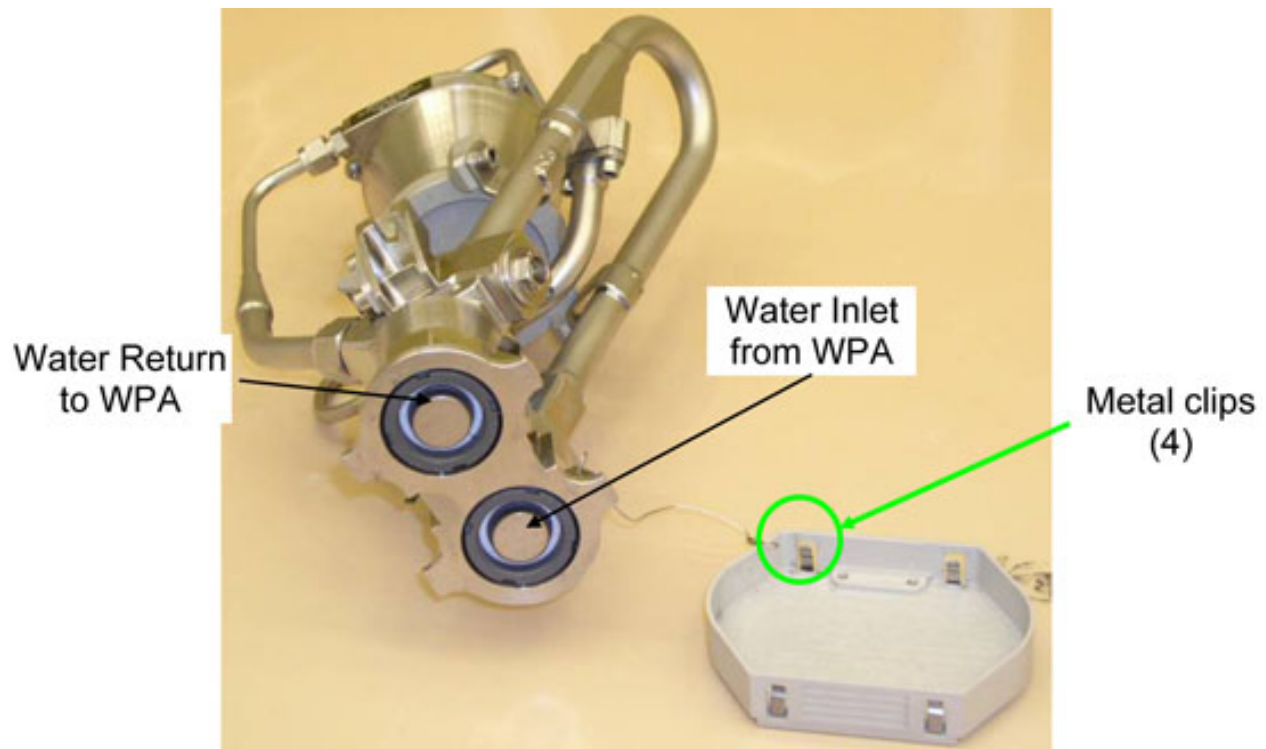

Figure 7. View of the WPA Hydrocyclone QDs (protective cap removed).
- 3.4 Remove the WPA Hydrocyclone protective cap and inspect WPA Hydrocyclone sealing surfaces for damage and debris. Refer to Figure 7.